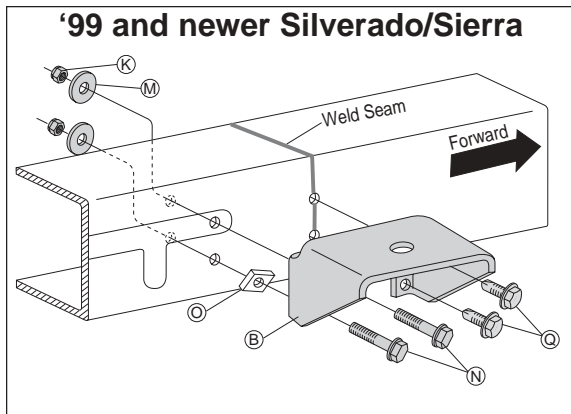
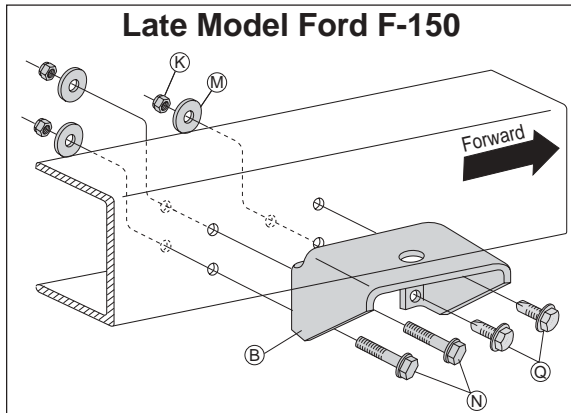

Figure 12
Figure 13
- a. **'99 and newer Silverado/Sierra:** Insert the square spacer (O) between the upper bracket and frame rail (Figure 12). Loosely attach with frame bolt (N), large washer (M), and nylock nut (K).
- c. **Dodge and early Ford pickups:** Many Dodge and Ford pickup chassis have an indent in the frame rail. Use spacers provided behind the mounting holes in the upper bracket that fall into this indented area. Use two round spacers (P) for Dodges and one square spacer (O) for Fords per side.
- d. **Late model Ford F-150:** Some models have a shock reinforcement on the passenger side that boxes in the frame. The forward holes will fall behind this boxed in section. The frame bolts (N), large flat washers (M), and nylock nuts (K) can still be used in all mounting hole locations, however, it will be easier to use a self-tapping frame bolt (Q) in the forward upper hole location (Figure 13).
- c. **Dodge Dakota:** The forward bottom hole will have to be drilled through the jounce bumper bracket and the frame. A spacer (P) is provided for the upper forward hole to compensate for the thickness of the jounce bumper bracket.
6. Replace the upper bracket to the mounting location and secure at the forward, lower mounting hole using washer head frame bolt (N), large flat washer (M), and nylock nut (K) as shown in Figure 1, except in '99 Silverados/Sierras (Figure 12) or late model Ford F-150s (per step 3D - Figure 13) use a self-tapping frame bolt (Q). Tighten securely.